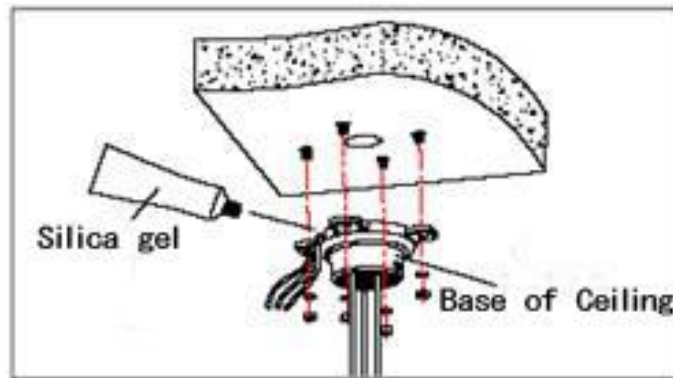

Fig 2.4
b. As shown in fig 2.4, fix the Base of ceiling (base plate) to the ceiling or soffit with the fixings provided (if these are suitable for the application – if not, you will need to source your own).